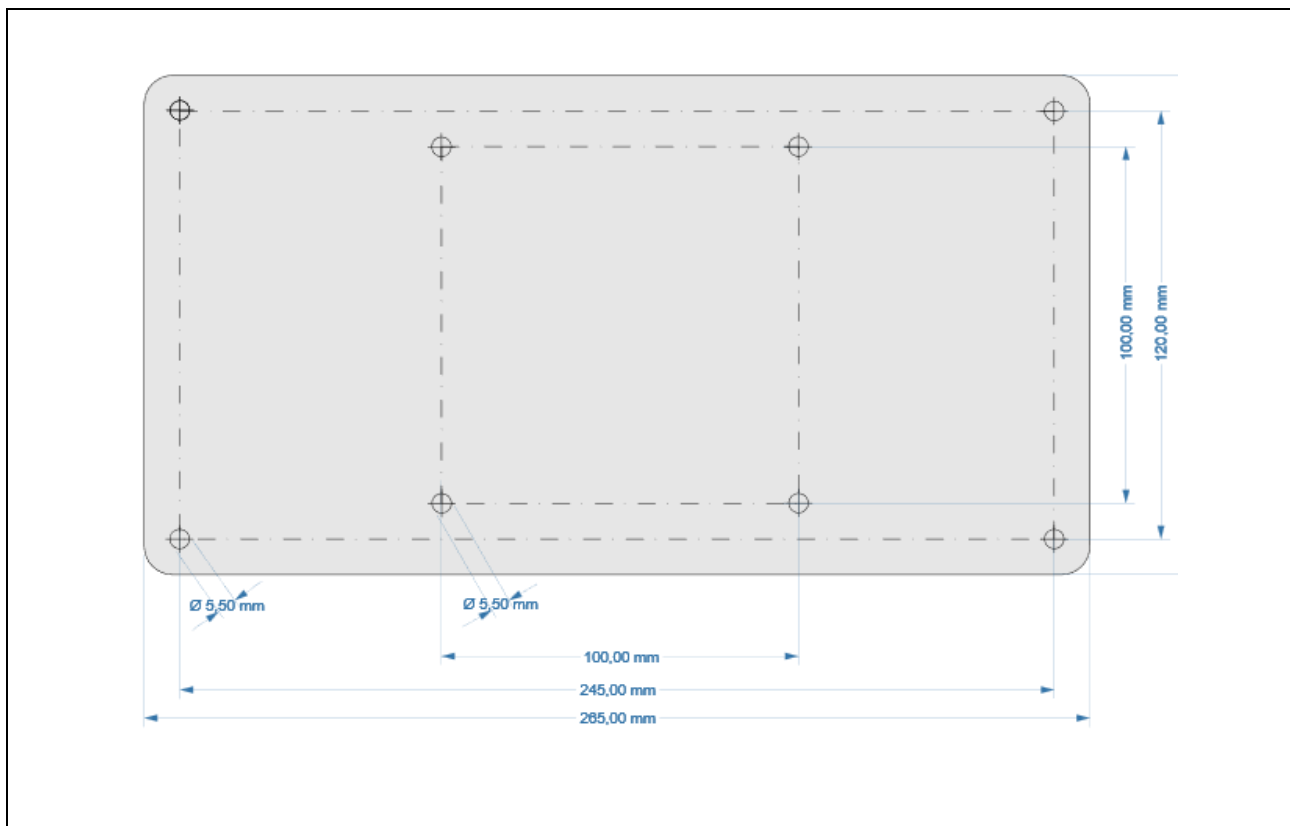

Fig 6: Drilling template for mounting plate
1. The 4 screws (Fig 6, 1-4) in the corners of the housing cover must be loosened with a screwdriver. The front of the housing can then be opened to the right using the hinge.